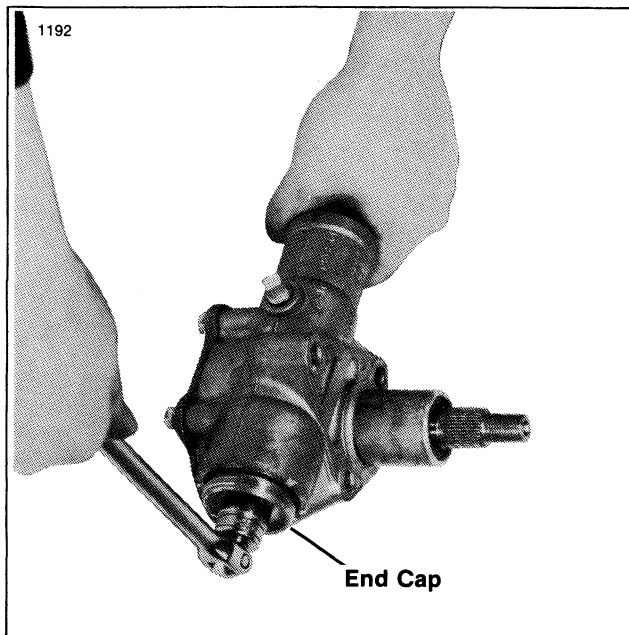

Figure 2-13. Adjusting Worm Bearings
3. Turn end cap in to take up any up and down looseness in steering wheel shaft (Figure 2-13).